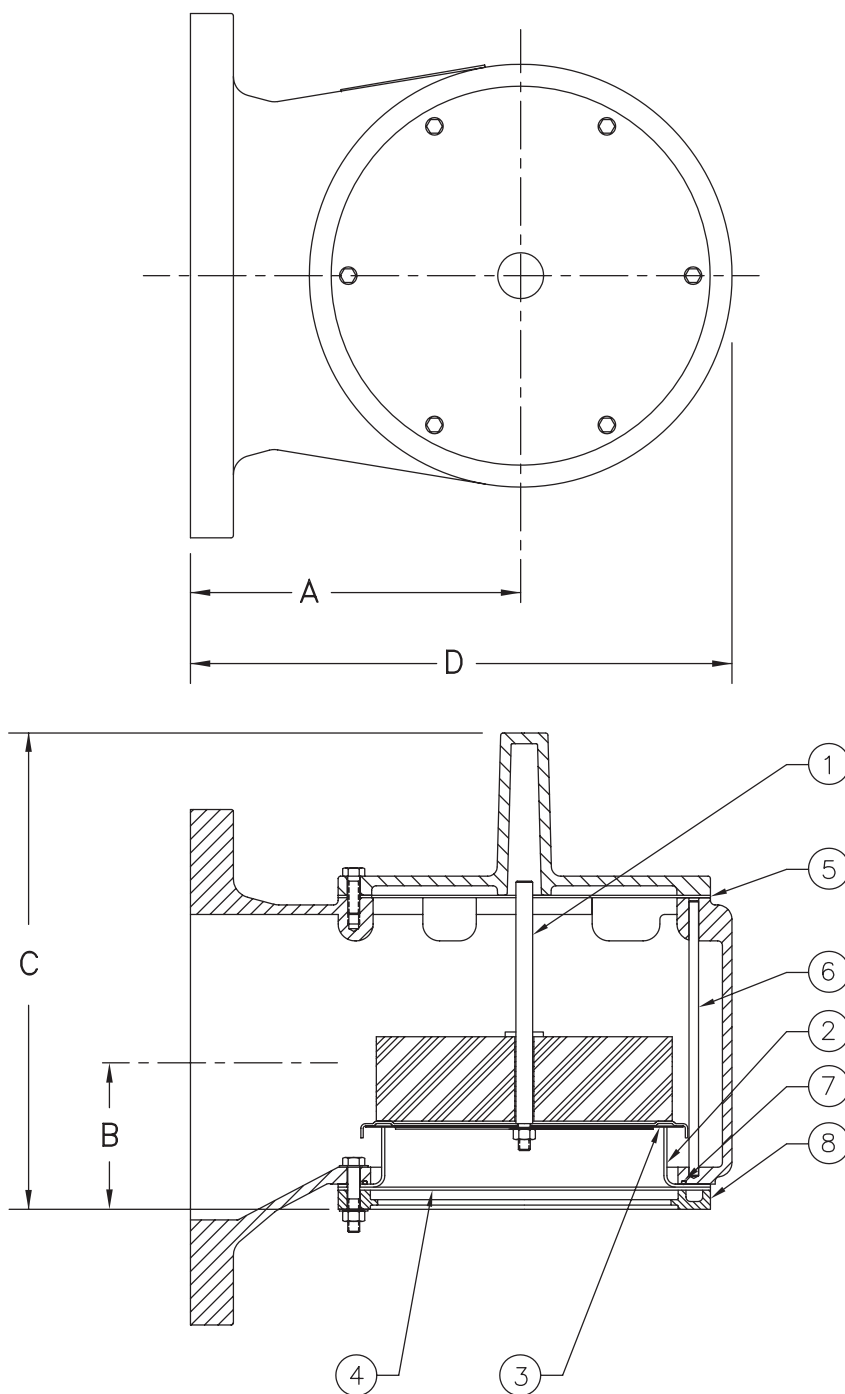

FIGURE 4. MODEL 3600B VACUUM RELIEF VALVE (LOW SETTING)
**TABLE 11 - REPLACEMENT PARTS MODEL 3600B (SEE FIG. 4 AND 5)**